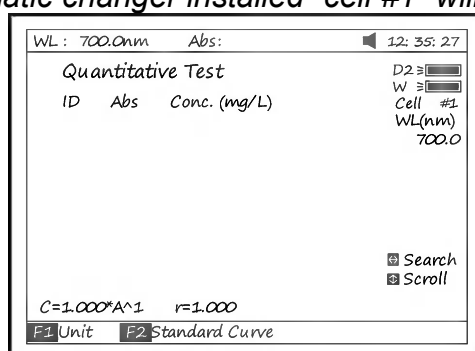
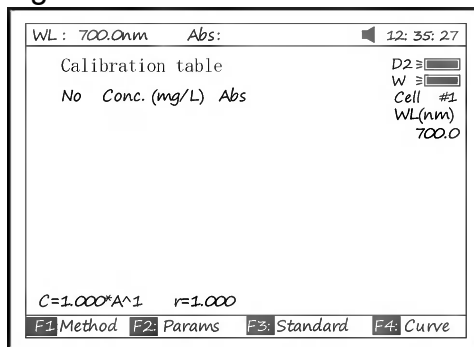
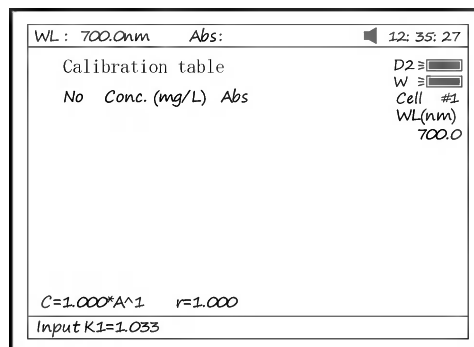
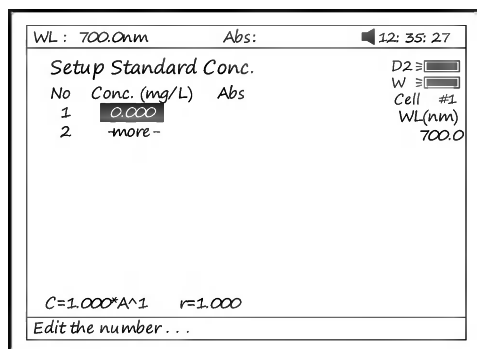

Fig 26
Fig 29
Fig 29A
Fig 30
Press **【2】** in Main Menu for “Quantitative” Test (Fig 26). Press **【ESC/STOP】** to exit.
Note: *.If no automatic changer installed “cell #1” will disappear in Fig26.*
3. Press **【F2】** in Fig 26 for more items to select .See Fig 29.
3.1 Press **【F1】** in Fig 29 to select fitting method. There are 4 methods for you to choose: Linear fit, linear fit through zero, square fit and cubic fit.
3.2 Press **【F2】** in Fig 29 to enter directly a known standard curve. Fig 29A.
3.3 Press **【F3】** in Fig 29 to establish a standard curve by measuring a group of standard samples. See Fig 30.
See 3.2. For Fig 29 enter a known standard curve directly.
Note: All sample results must be taken in screen Fig26.